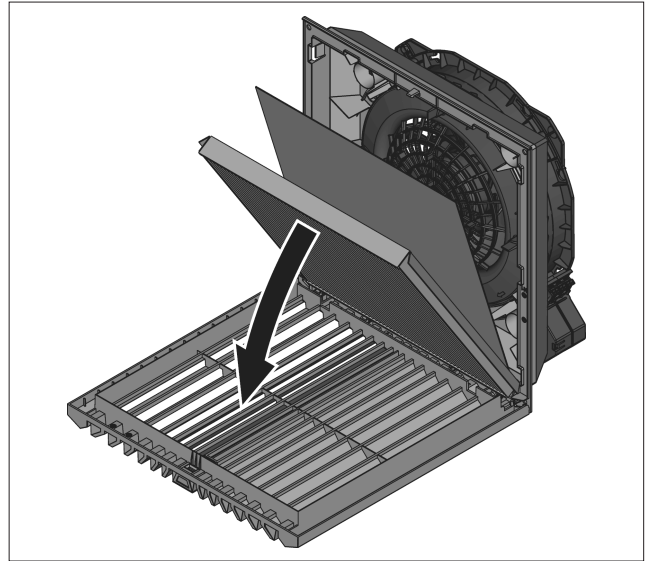

Fig. 13: Installing the IP55 pleated filter
- For IP55 only: Place the IP55 absorber mat supplied with the pleated filters on the previously placed pleated filter (see fig. 13). The installation direction of the absorber is not critical.